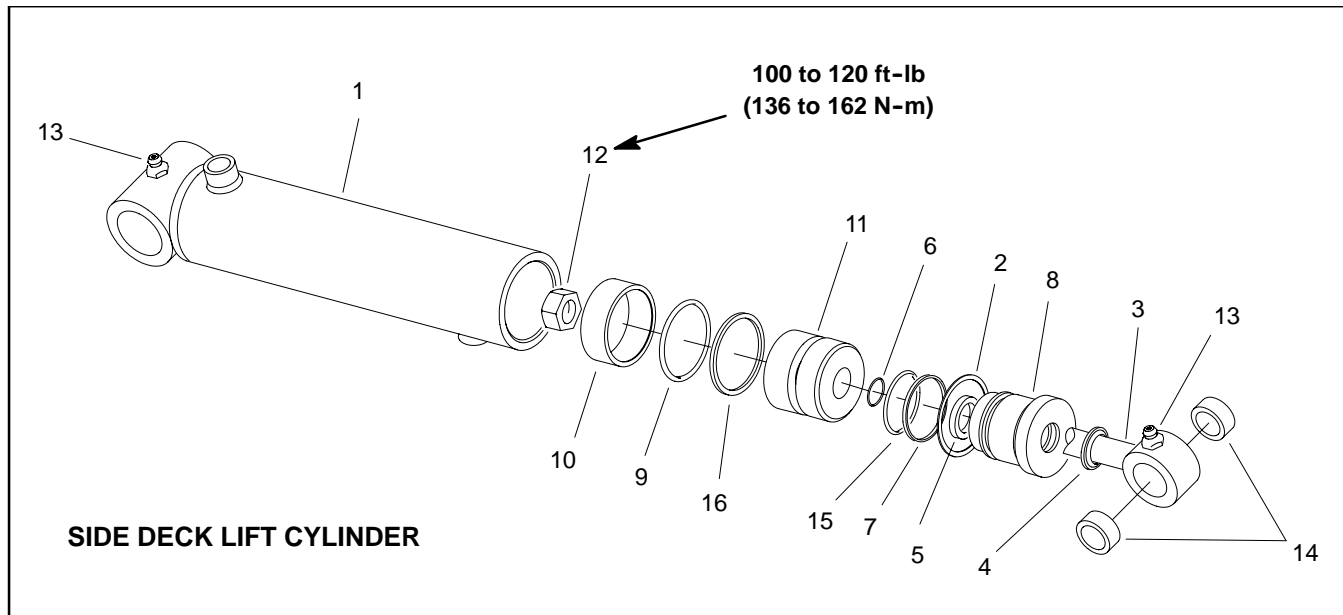
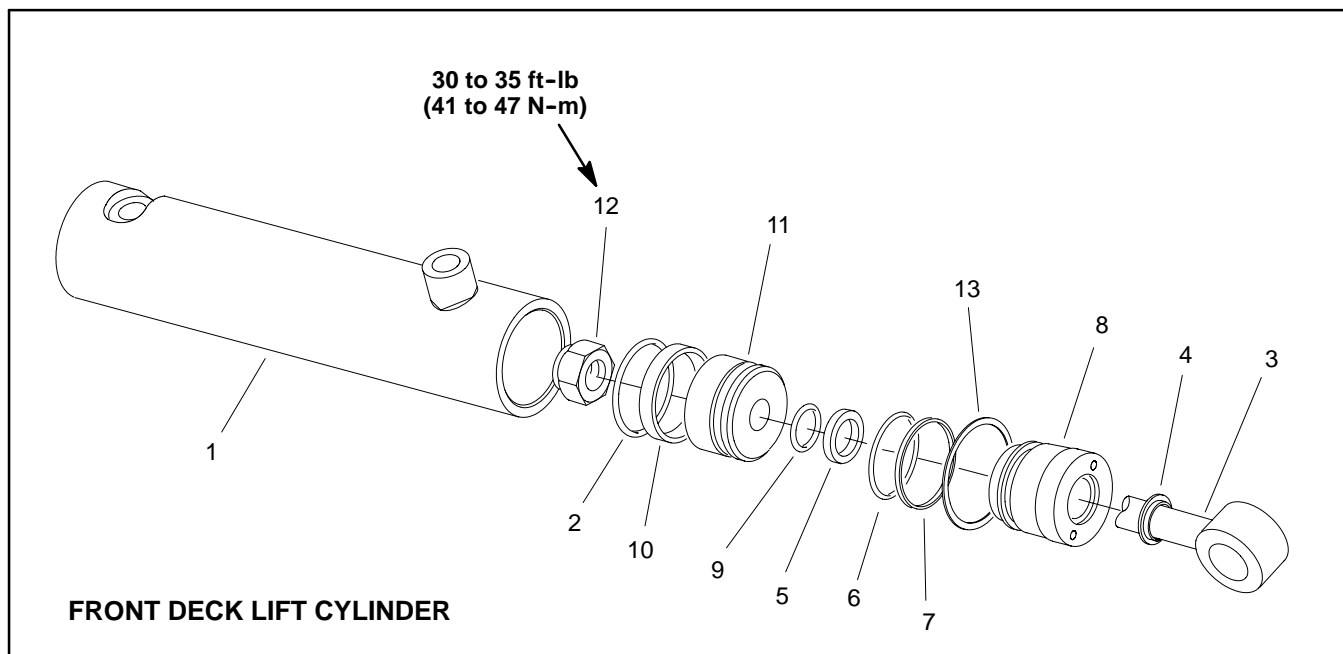

Figure 115
Figure 116
## Disassembly (Figs. 115 and 116)
## Assembly (Figs. 115 and 116)
C. Torque lock nut to specification in Figure 115 (side deck cylinder) or Figure 116 (front deck cylinder).